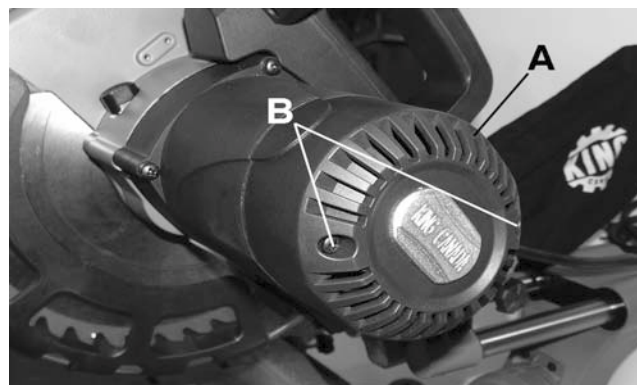

Figure 22
Remove and check the carbon brushes regularly (normally after 50 hours of use). The carbon brushes are installed inside the motor housing. Using a screwdriver, remove the 2 pan head screws (B) Fig.22 that hold the motor housing cap (A) in place.